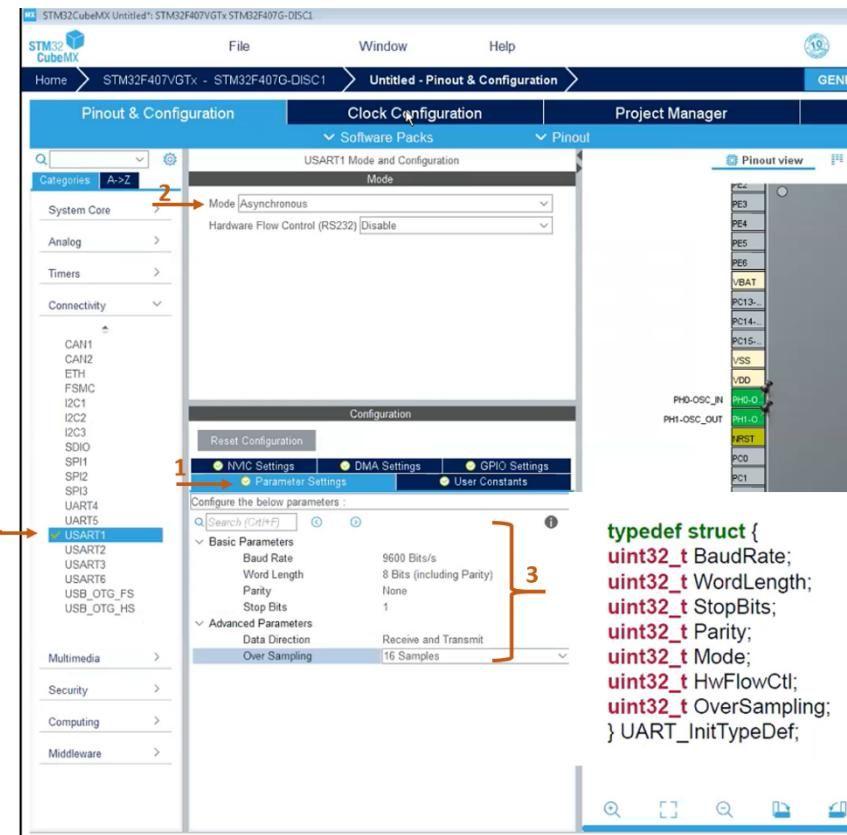
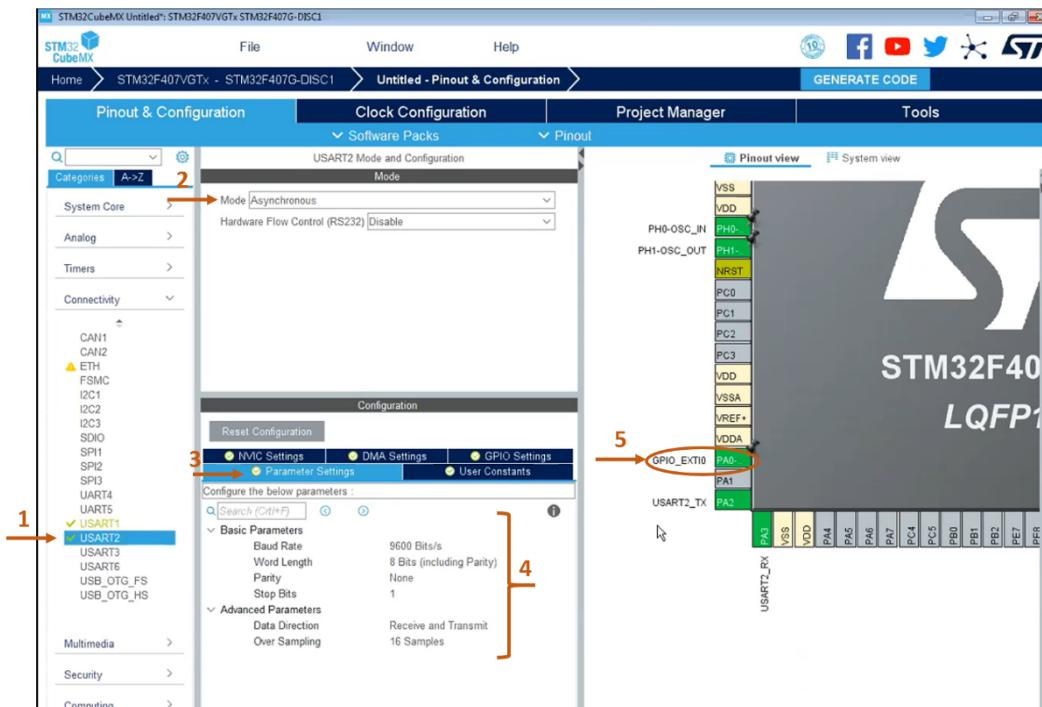
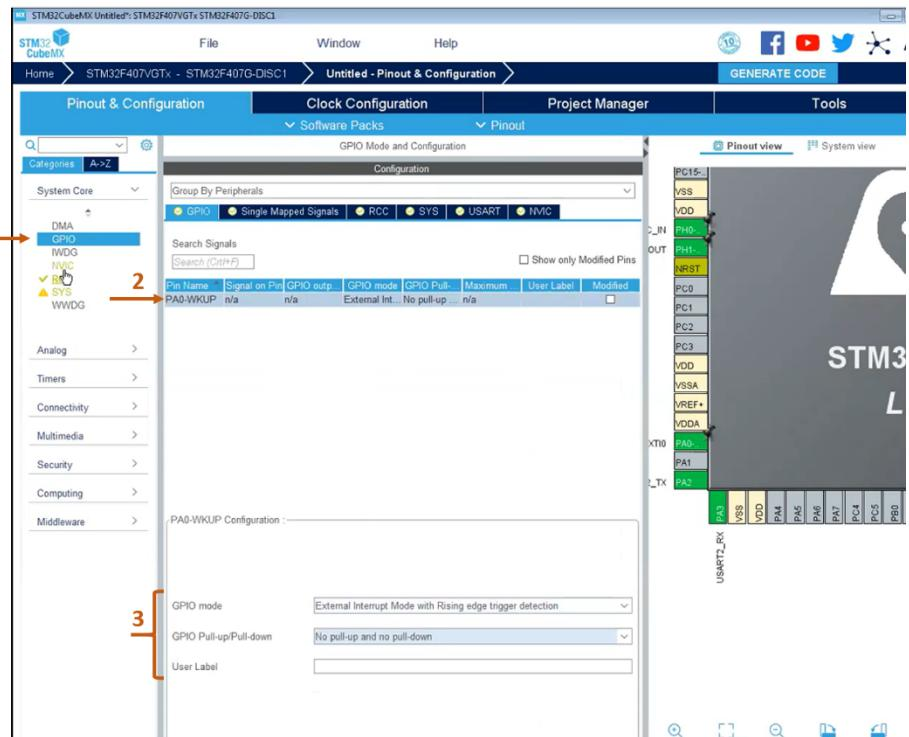
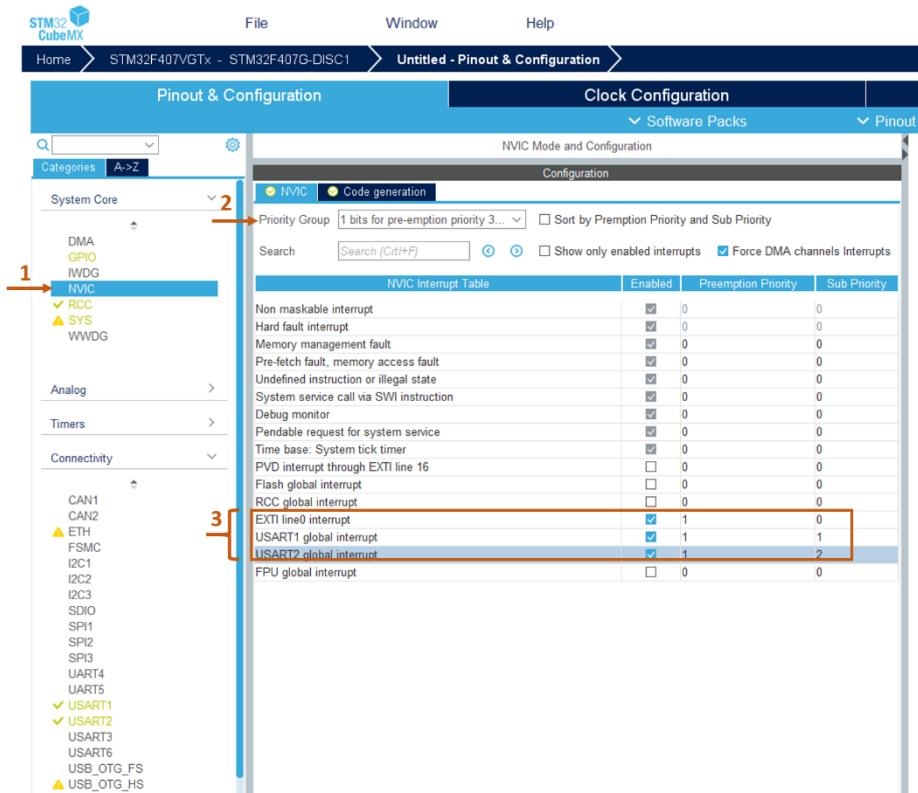

Figure 4
Figure 5
Figure 6
Figure 7
2. We use USART1 and USART2 peripherals in the lecture. Set the configuration for USART1 (Figure 4) and USART 2 (Figure 5). Use USARTs in Asynchronous Mode. BoudRate is 9600 Bits/s, Word Length is 8 Bits, Parity is None, Stop Bit is 1, Data Direction is Receive and Transmit, Over Sampling is 16 Samples for both of the USARTs. Select the PA0 pin as GPIO_EXTI0. Go to GPIO settings and set the GPIO configurations for the PA0 pin as in Figure 6. Set the NVIC configurations as in Figure 7.